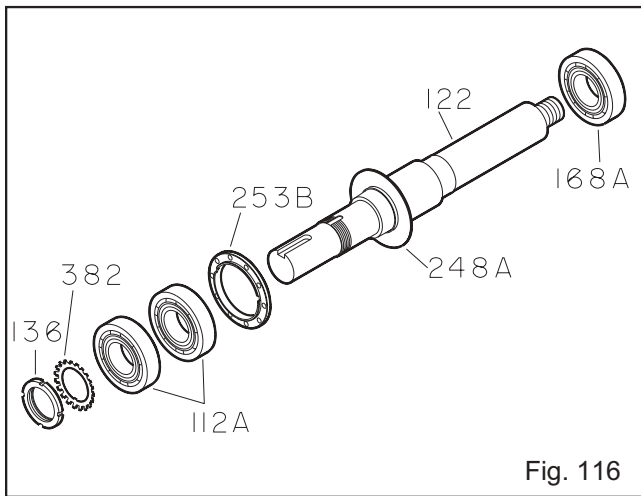

Fig. 116
2. Attach bearing frame foot (241) with bolts (370F). Hand tighten.
3. Install oil flinger (248A) on shaft (122) if removed (Fig. 116).